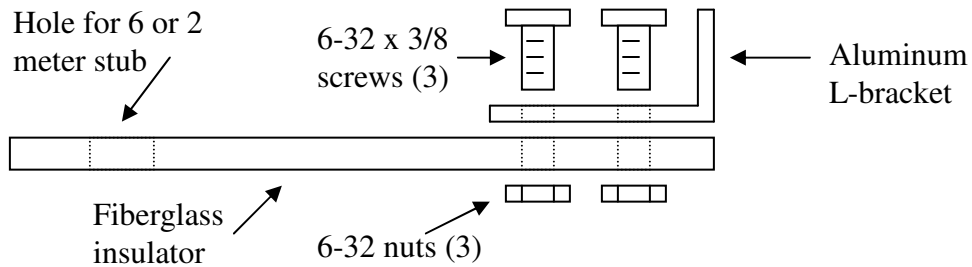

Figure 1
- 3) Assemble the two small "L" brackets to the two long fiberglass insulators with 6-32 x 3/8" screws (3 each) and the 6-32 keps nuts (3 each) as shown in Figure 1.